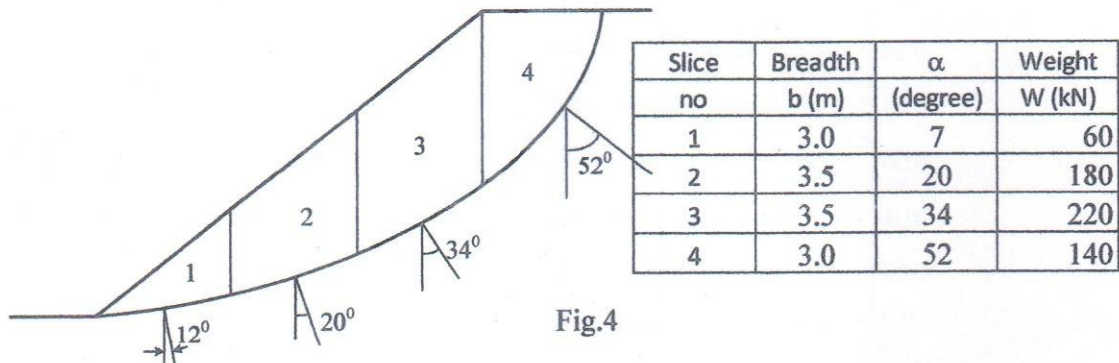

Fig.4
- (c) Briefly describe the sampling methods of *Thin-Wall Tube* and *Piston Sampler*. (6)
6. Fig. 4 gives details of the cross-section of an embankment. The soil has the following properties: the cohesion of soil and the angle of shearing resistance to be 20 kPa and 30°, respectively. Unit weight of the ground is 16.0 kN/m³. For the slice shown, determine the factor of safety for the pore pressure ratio, $r_u=0.2, 0.5$ and 0.8 using Bishop Method. Plot the variation of factor of safety with r_u . (25)